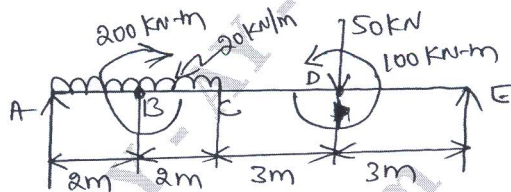

Fig.Q.6(b)
b. Draw the shear force and bending moment diagram for the beam shown in Fig.Q.6(b). Find the location of point of contraflexure and magnitude of maximum bending moment. (14 Marks)